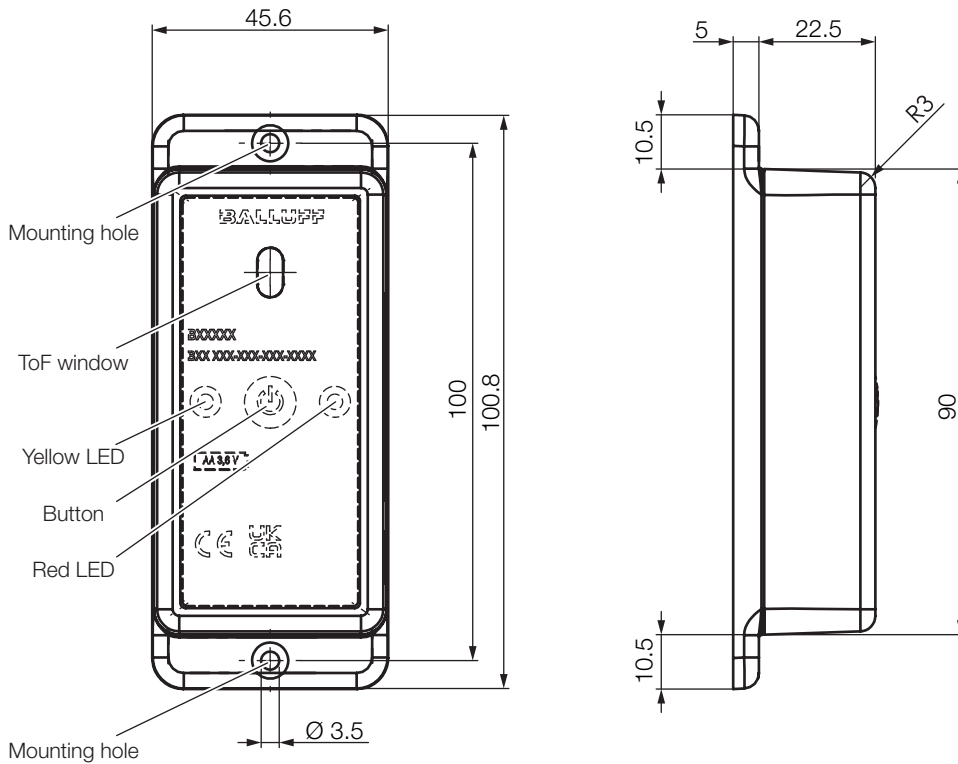

Fig. 4-1: Dimensions, design and function
For dimensions, see Fig. 4-1 on page 7.
- ▶ Mount the sensor so that the ToF window (see Fig. 4-1 on page 7) is positioned directly above or in front of the material to be monitored.